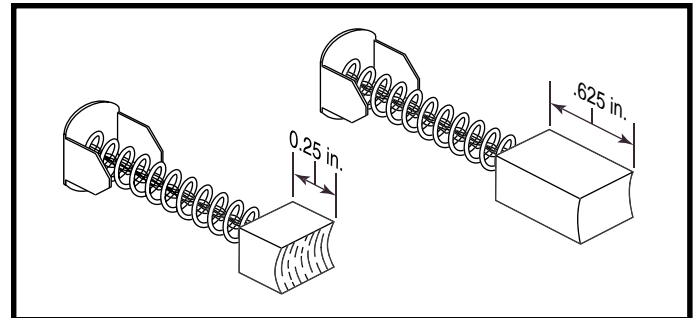

Figure 25. Motor Brushes
7. Remove the brushes from the right motor (8) and inspect them. **See figure 25.**
- If the brushes are not worn below 0.25 in. or they are not damaged, then replace the right motor (8) and retest the system.